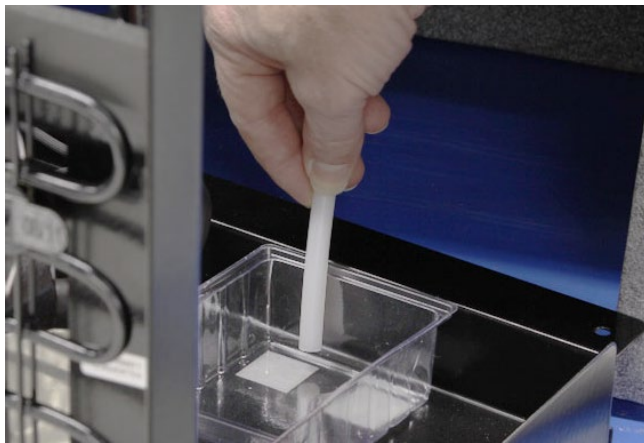

Figure 24: Position drain tube in front half of drip pan.
- 18. Slide the refrigeration module to the rear of the refrigerator and place the drain tube in the drip pan on the module (Figure 24).